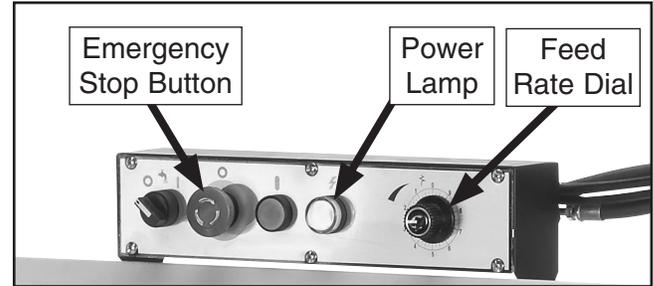

Figure 12. Emergency stop button location.
2. Raise headstock all the way up, and turn feed rate dial (see **Figure 12**) clockwise to "0".
3. Press Emergency Stop button (see **Figure 12**).
4. Connect machine to power by inserting power cord plug into matching receptacle; power lamp (see **Figure 12**) will illuminate.
6. Press **ON** button (see **Figure 12**) to turn machine **ON**.